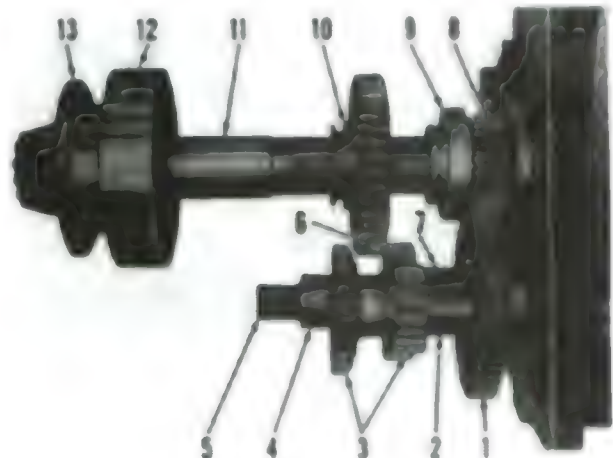

Fig. 97 - Exploded view of range transmission gears, shafts and bearings used on Models 684, 784 and 884.
After determining the number of shims needed, remove pinion shaft and install shims. On Model Hydro 84, reinstall pinion assembly with shims, Woodruff key (7 - Fig. 91), park brake drum (8), snap ring (9), steel ball (10), speedometer drive gear (11), snap ring (12) and Hi-Lo sliding gear (13). Tighten bearing cage bolts securely. Install speedometer drive assembly. On Models 684, 784 and 884, reinstall pinion assembly with shims, park brake drum (4 - Fig. 97), snap ring (3), Lo and reverse sliding gear (2) and Hi speed shift collar (1). Tighten bolts through bearing cage retainers (11) securely. On all models, install shifter forks and